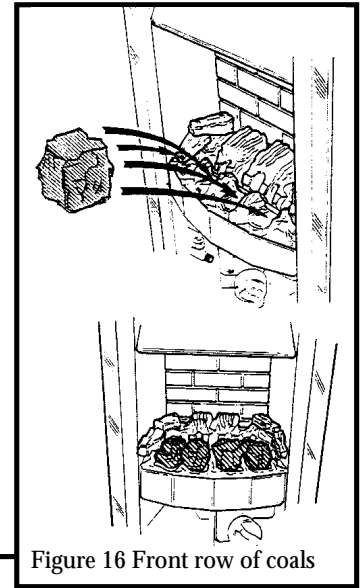

Figure 16 Front row of coals
7.3.2 Place four of the remaining coals in the four valleys of the front coal. Place the left side coal so that the pilot flame will be visible. See figure 16.